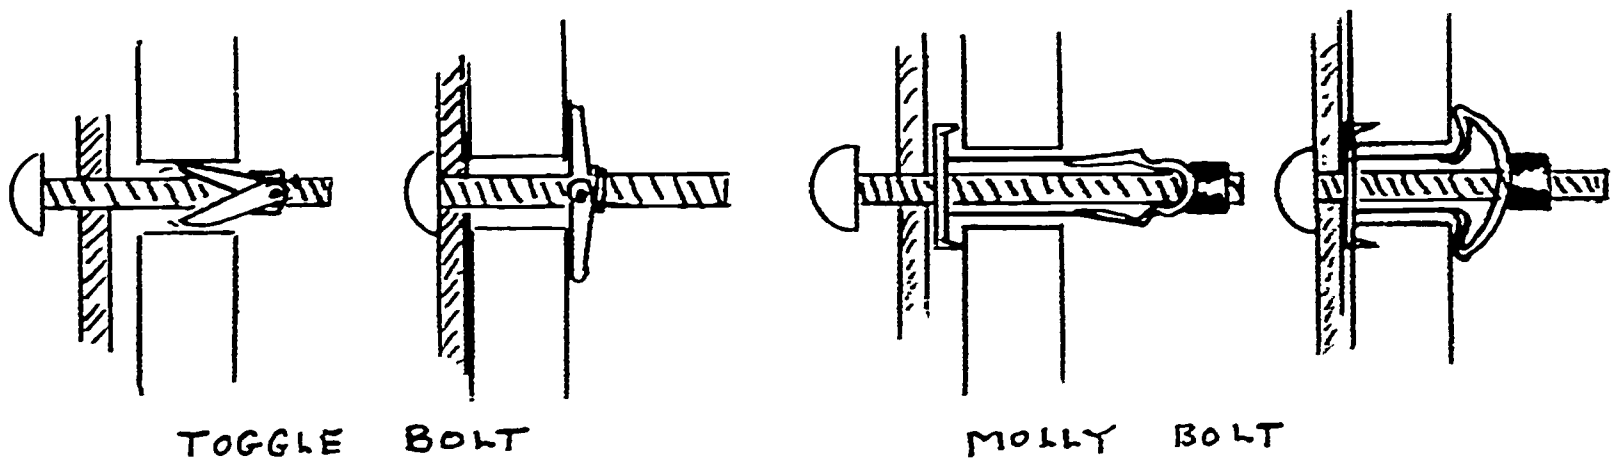

FIG. 230
d. 2 toggle or molly bolts. See figure 230.